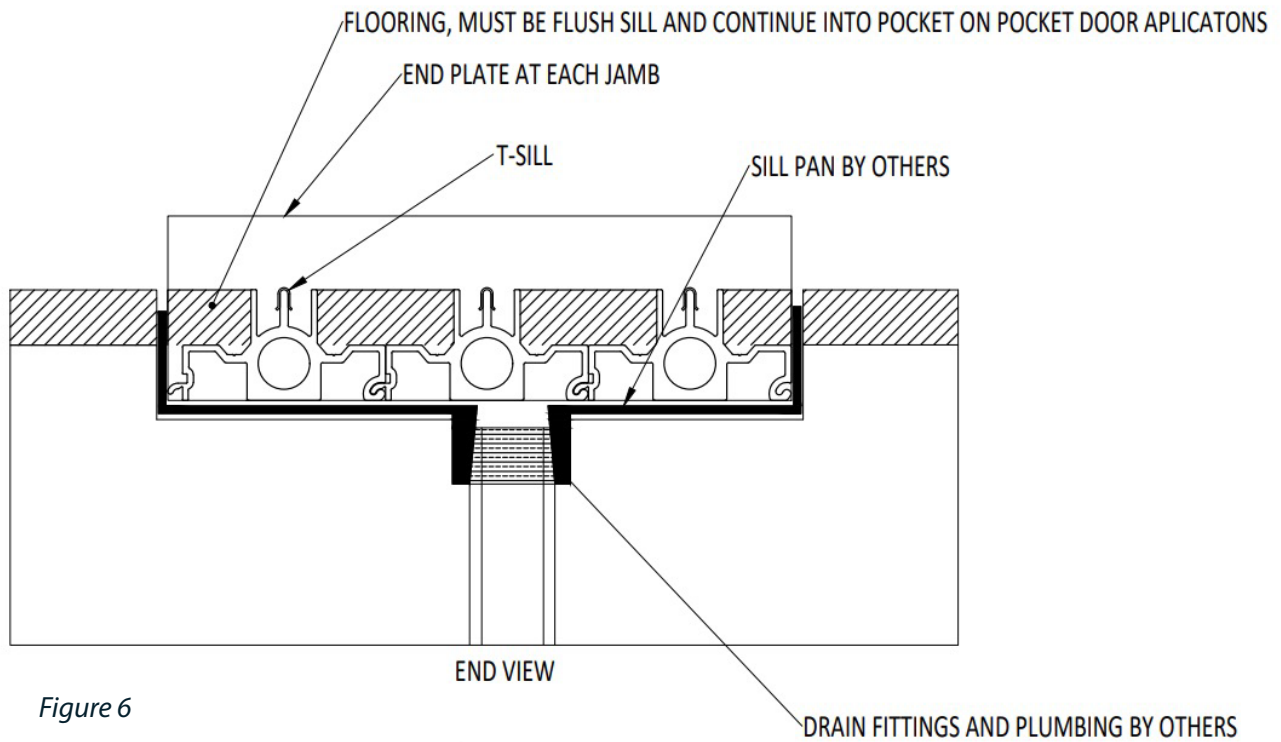
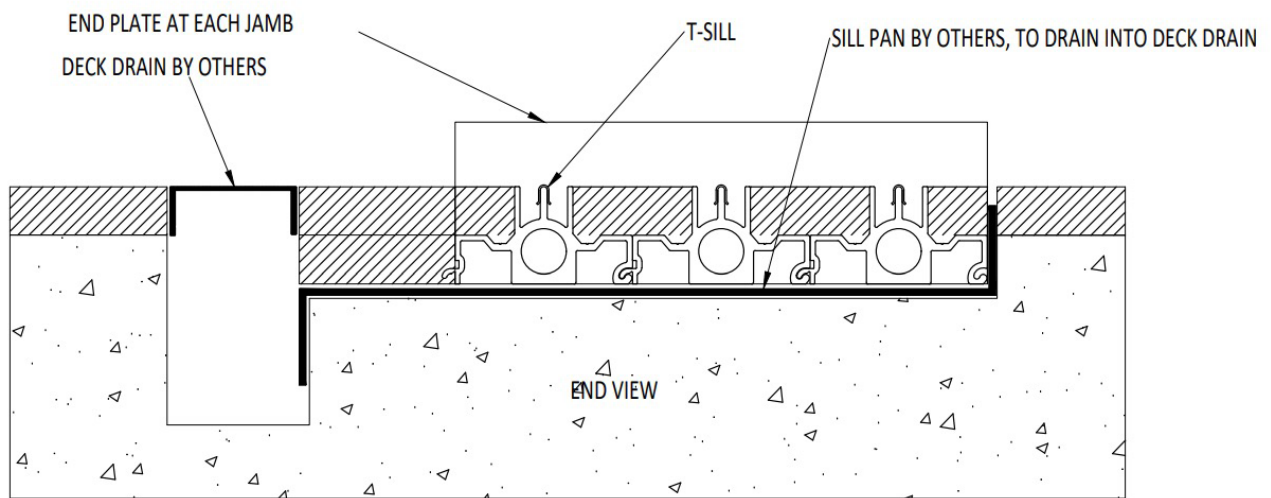

Figure 6
Figure 7
- Front Weep with pan and drain by others (See Figure 6).
- Front weep with deck drain and pan by others (See Figure 7).
8. **Front Weep Sills** – Sills that have a weep slot located on the bottom surface 6" from each end and 6" from each stagger location will allow water to drain out the bottom of the sill directly into a water management system supplied by others, such as a sill pan or equivalent. (See Figure 6). If a slot drain or similar system is used, the door sill pan can be drained into the slot drain. Ensure that the slot drain bottom is adequately below the sill pan to ensure water only flow away from the sill. (See Figure 7). Skip to step 10.